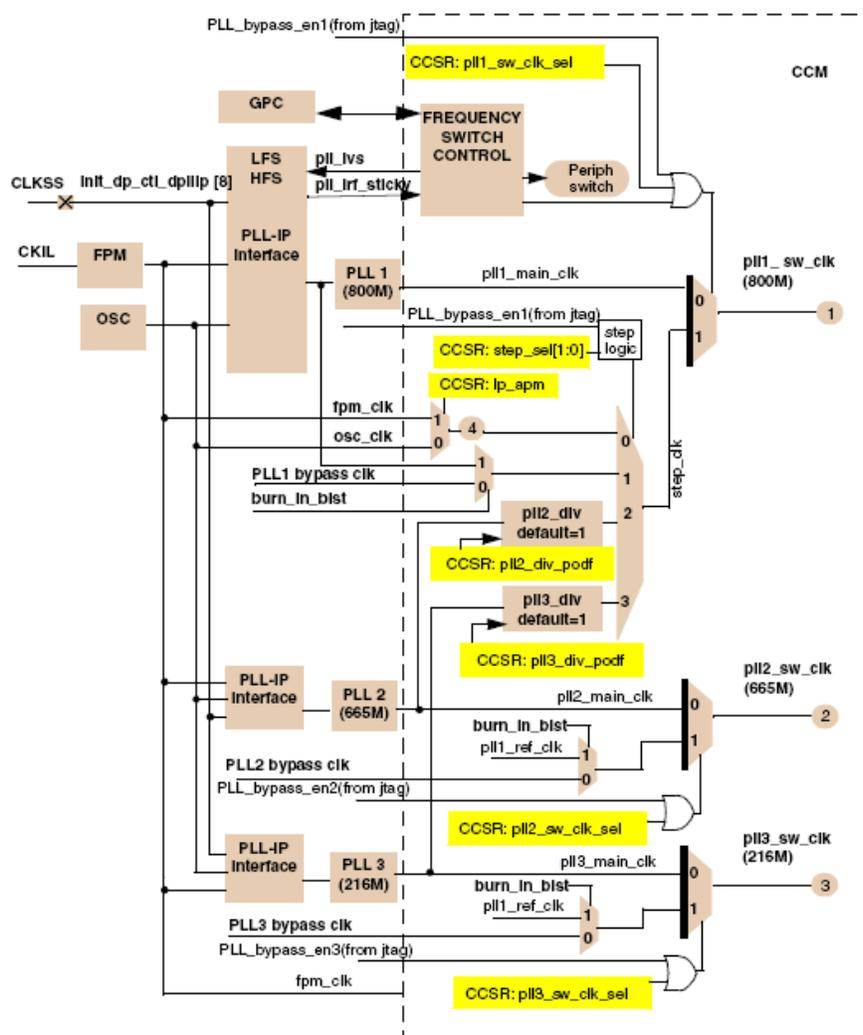

Figure 2. CCM Clock Switcher Module Architecture
Figure 2 shows the CCM clock switcher module architecture.
As seen in Figure 2, the clock-source for each switcher clock (pll1_sw_clk, pll2_sw_clk, and pll3_sw_clk) is described as follows:
- pll1_main_clk—pll1_main_clk is the clock output of DPLL1 (shown as PLL1 in Figure 2).